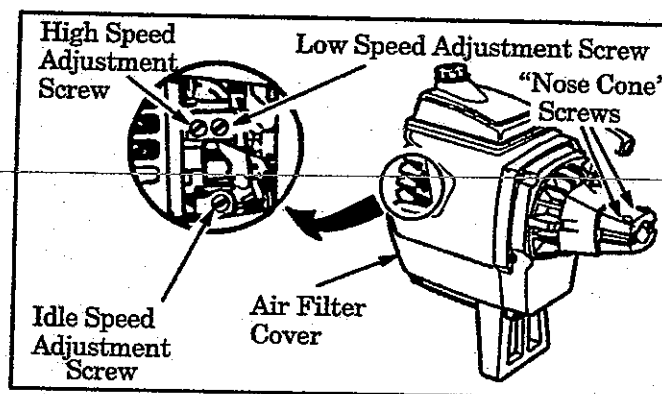

Figure 25
- a. Turn the low speed mixture screw and the high speed mixture screw (Figure 25) clockwise until they stop. *Do not turn the screws until they are tight as damage to the needle seats can occur.*
2. Adjust idle speed screw (Figure 25) until engine continues to run without stalling and without blade or trimmer head moving.
- b. If the engine does not accelerate smoothly, turn the low speed mixture screw (Figure 25) counterclockwise a small amount (no more than the width of the slot in the adjusting screw).
2. Turn the low speed mixture screw (Figure 25) slowly clockwise until the speed starts to drop. Note this position.
3. Turn high speed mixture screw (Figure 25) very slowly clockwise until engine speed is reduced.